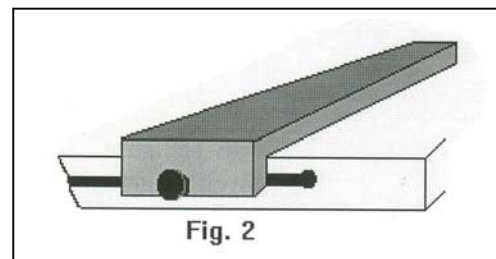

Fig. 2
**RIP FENCE Standard all models (figure 2)**